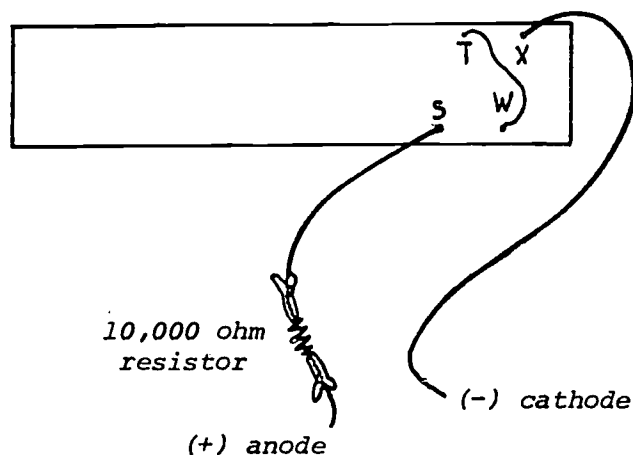

FIGURE 3: *Circuit with resistance added.*
A deficiency of electrons at the part of the wall behind the paper meant a positive charge there. That part of the wall was thus positive. This is why the negative rubbed paper was attracted to it. Figure 3 shows this process, called induction. The negative paper induces a positive charge on the wall.
2. Hooking up the 5-volt supply on the BIP means that there will be a 5-volt drop (remember the waterfall in Section 20) between the anode (+) and the cathode (-). For the electroplating you are going to do it is desirable that the voltage drop be closer to two volts. In order to accomplish this a resistor (something that resists the passage of electric current) is placed in the circuit. The resistor lowers the amount of current that passes through the circuit. As was discussed in Section 20, a lower current means the voltage will also be lower. In this particular case, it is necessary to add a resistor of 10,000 ohms to obtain the voltage drop of two volts that is wanted. (Ohms are merely the units in which resistance is measured.) Clip in the 10,000 ohm resistor as shown in Figure 3.